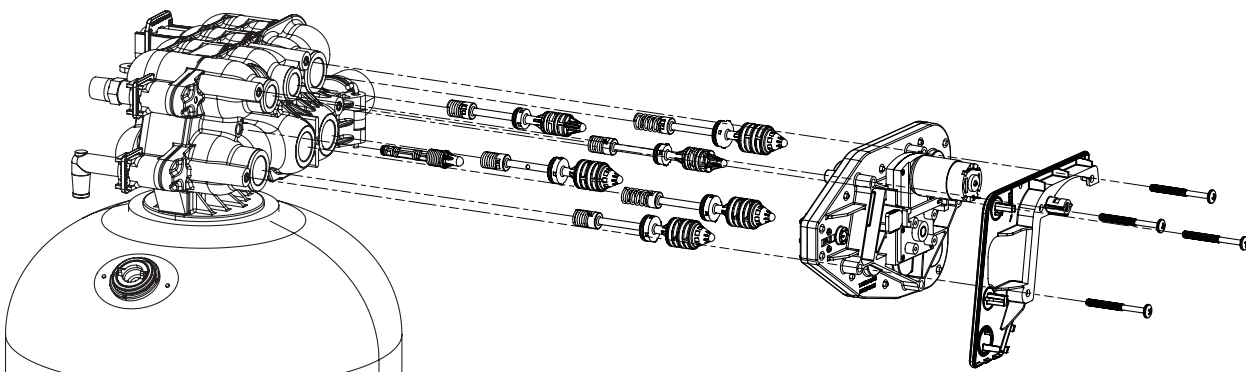

Figure 60. Pistons.
3. Using fingers or pliers pull the six pistons out of the valve body. Also remove the brine piston. See Figure 60.